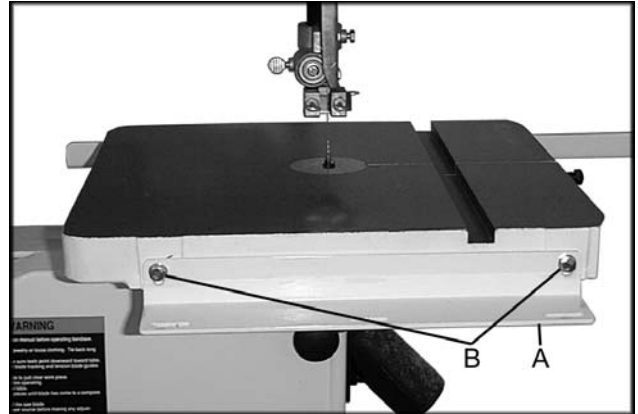

Fig. 2
3. Mount the front rail (A, Fig. 2) to the bandsaw table using two M6x20 hex cap screws, two 1/4" lock washers and two 1/4" flat washers (B, Fig. 2). Do not tighten.